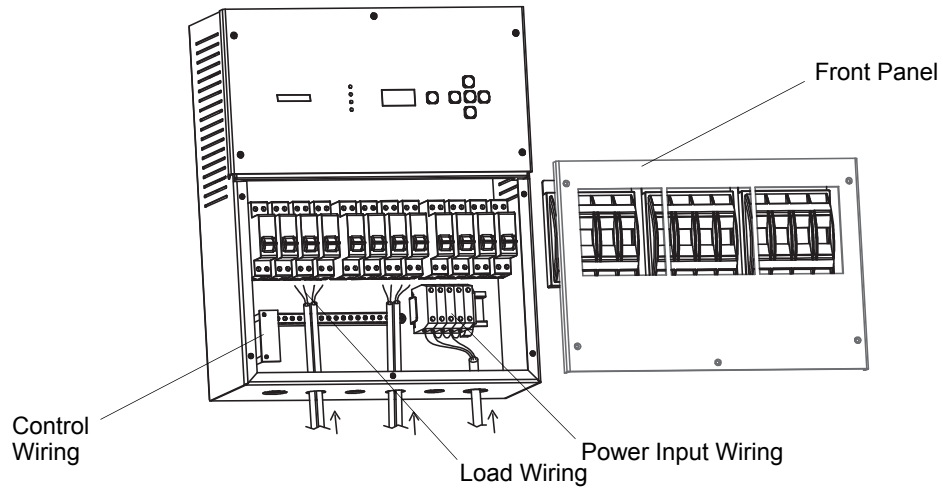

Figure 5: Relayrack Panel Wiring
Step 3. Referring to **Figure 5**, note Relayrack Panel's connections for Input Power, Loads, and Control Signals.\